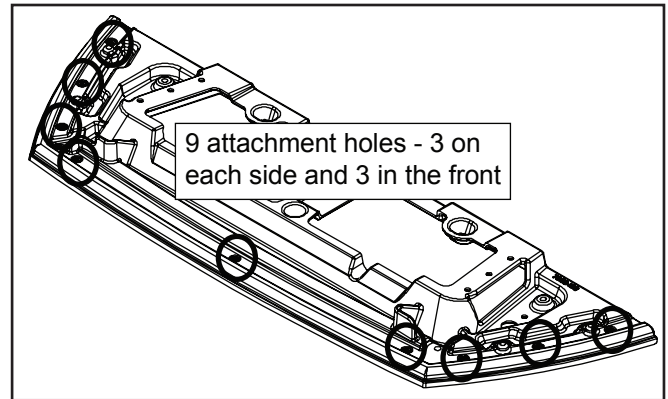

Figure 19.3
8. Open the door and attach the hearth support to the insert. There are 9 attachment holes. **Figure 19.3.**